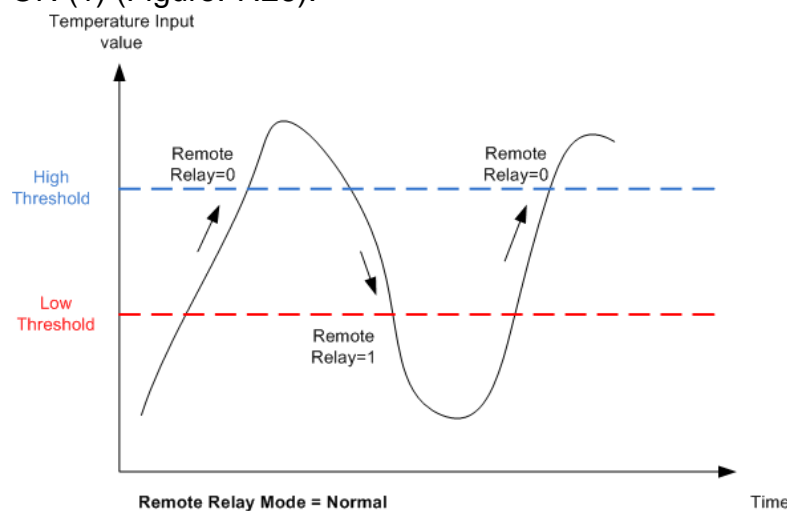

Figure 7.26. Controlling remote relay when **Remote Relay Mode** parameter is "Normal"
- *Normal* - when the rising Temperature Input value crosses the **High Threshold**, the remote relay (digital output) will be OFF (0). When the falling value crosses the **Low Threshold** the remote relay (digital output) will be ON (1) (Figure. 7.26).